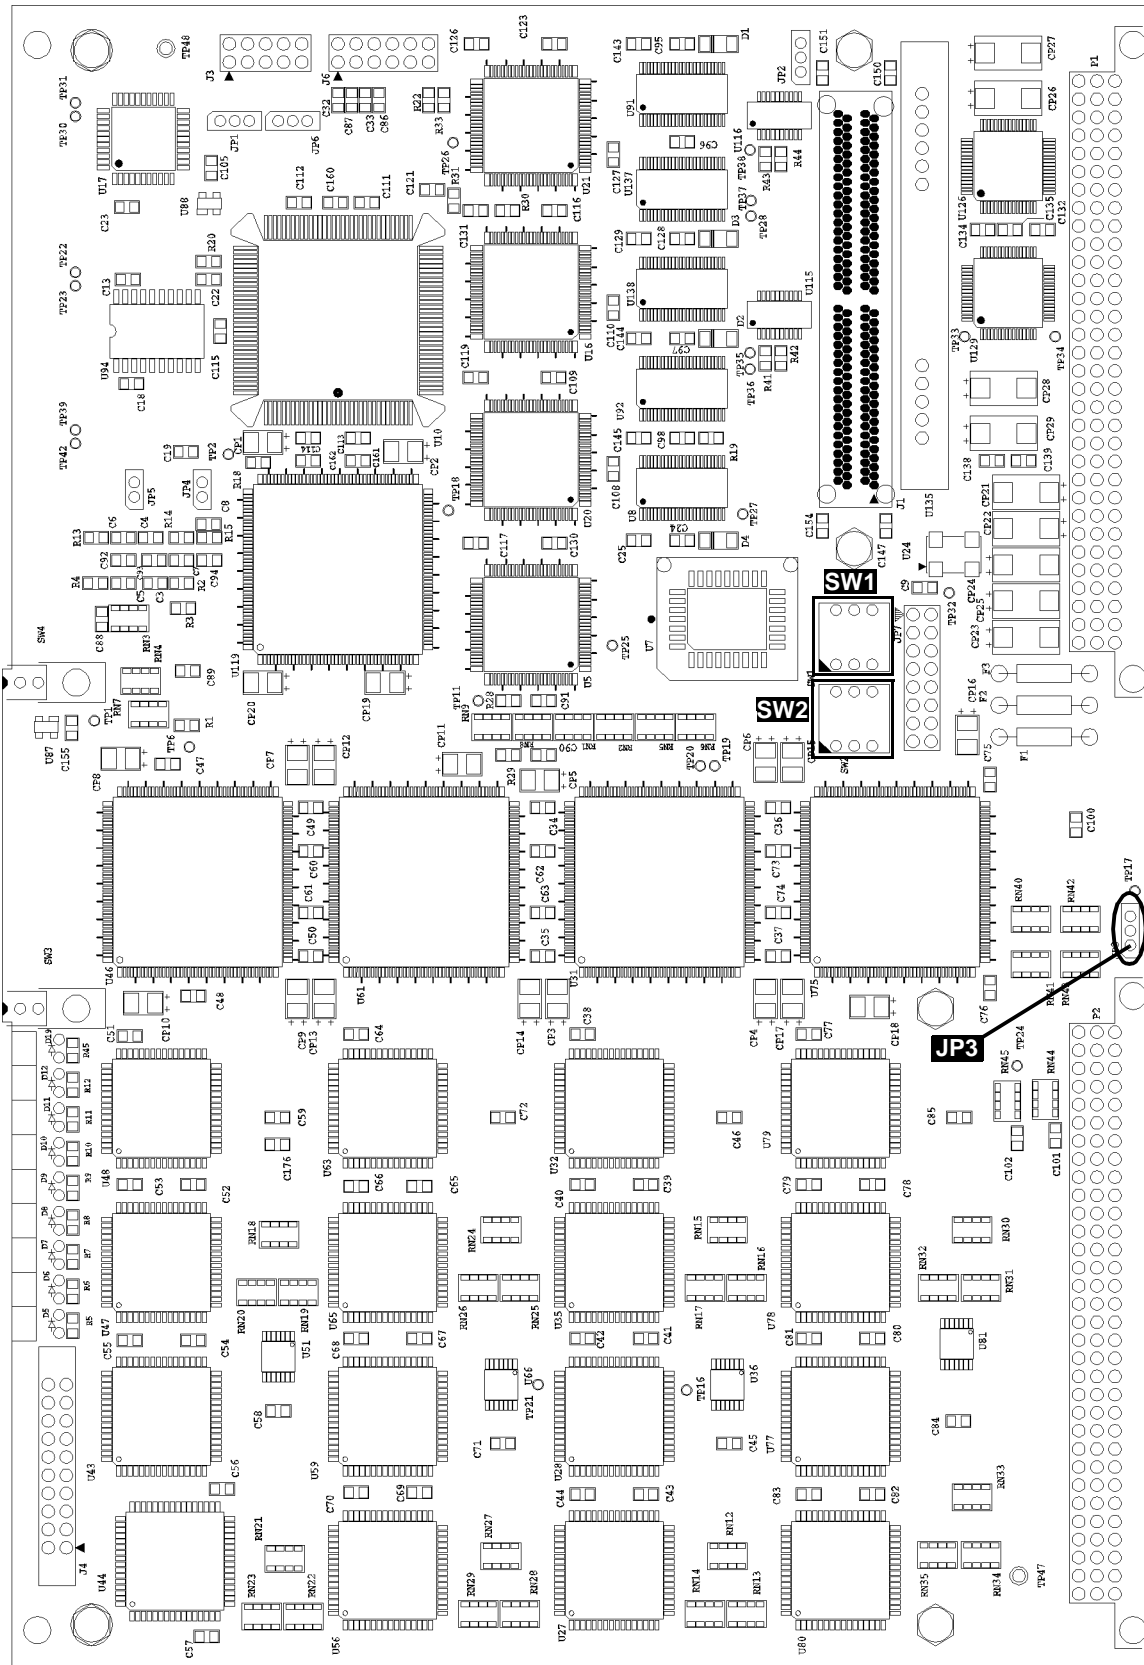

Figure 2-2: Model 6526 VME Board – Component Side Assembly Drawing
The Model 6526 contains two printed circuit (PC) assemblies. The board with the VME-bus P1 and P2 connectors (the VME board, Pentek part # 004.65260) contains the VME interface, the 'C31 DSP, its associated memory resources, and the FIFOs. The other board (the Mezzanine board, Pentek part # 004.65261), houses the input connectors and the Digital Receiver circuitry. Drawings of the component and solder sides of both PC assemblies are shown in Figures 2-2 through 2-5, on the next four pages.
Three separate address spaces are defined for the VMEbus environment. These three regions are known as A16, A24, and A32. Each device in your VMEbus card cage must have a unique address in any address space in which it must be accessible. On the Model 6526, the A16\_base address (the lowest address in the A16 region occupied by this device) is set by two rotary switches. These switches, SW1 and SW2, are located on the VME board and are accessible through a notch at the rear of the Mezzanine board. Set these switches for the desired A16\_base address before installing the Model 6526 in the VMEbus card cage. Figure 2-1, below, shows what these switches look like, and Figure 2-2, on the next page, shows the location of these switches on the VME board.
The JP3 jumper block is located just above the P2 VME connector on the Model 6526 main VME board (see Figure 2-2, on page 18).